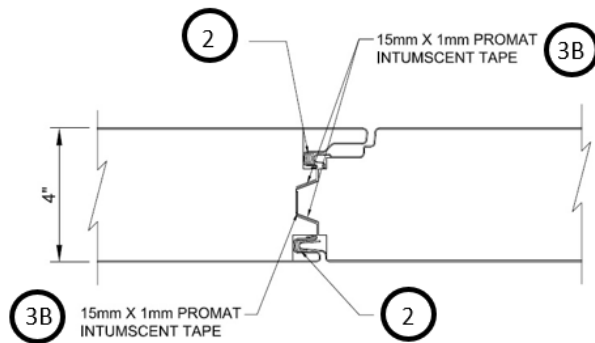

Figure 1. 4-in. Panel Intumescent Installation
- B. **OPTION 2** – Refer to Figures 1, 2, and 3. Apply a layer of 1mm thick Promat Promaseal®-LW Intumescent Tape in the interlocking joints of the mineral wool core of each panel prior to joining the panels, as shown in the drawings below with widths and locations specified.